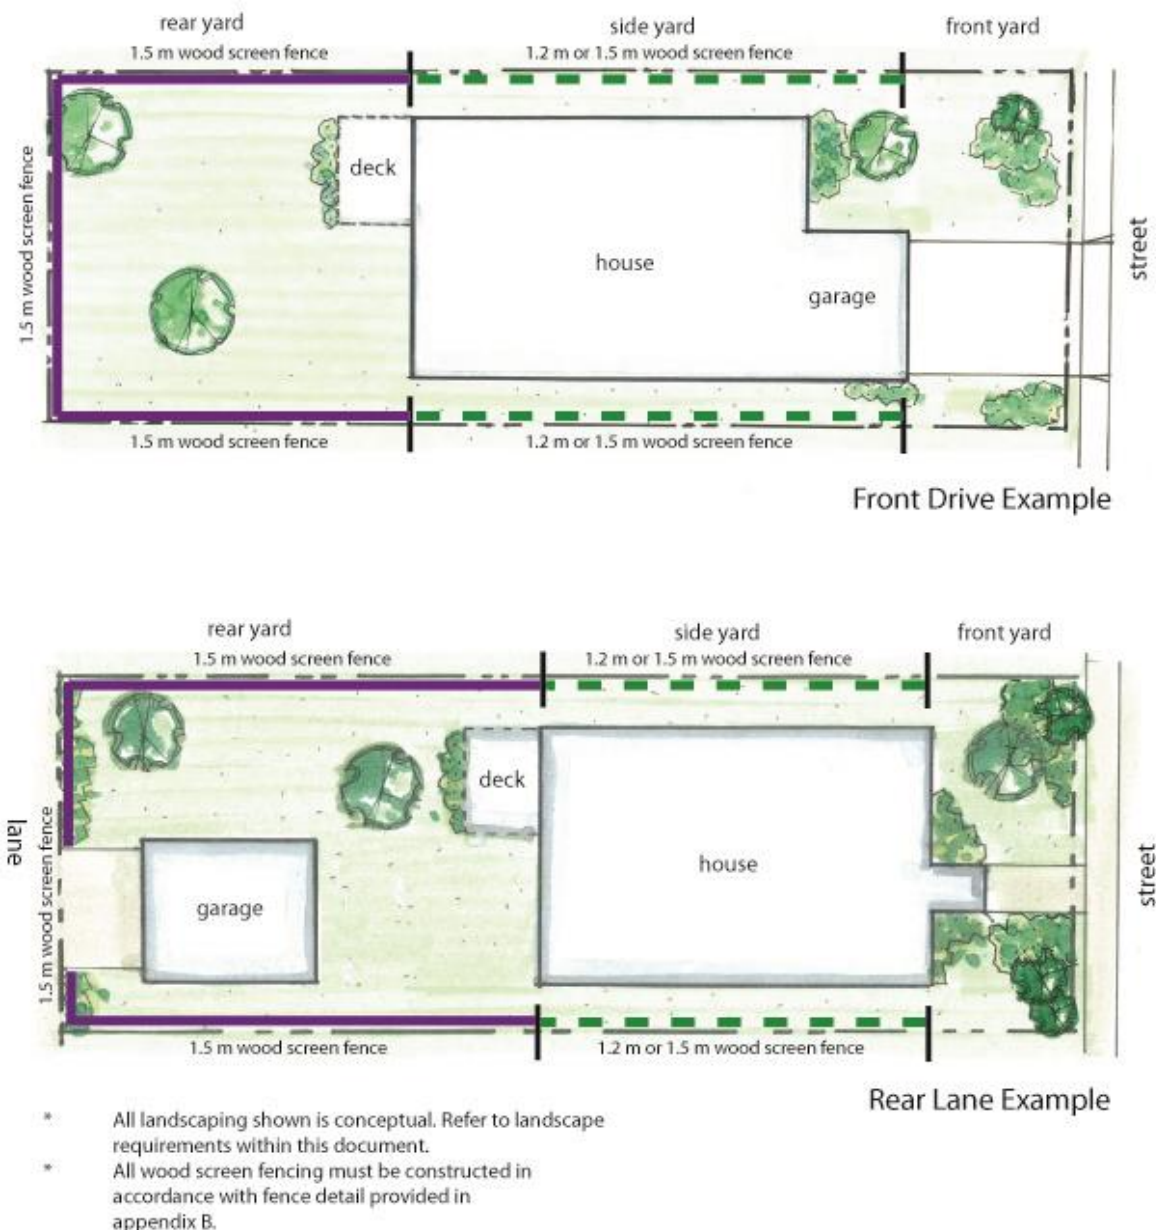

Figure 2: Fencing Plan – Typical Lots
- 11.3.3 Fencing for typical lots shall be designed as shown in **Figure 2: Fencing Plan – Typical Lots**, with 1.5 m wood screen fencing along the rear and side yards. Fencing height may be reduced to 1.2 m along the length of the house structure.